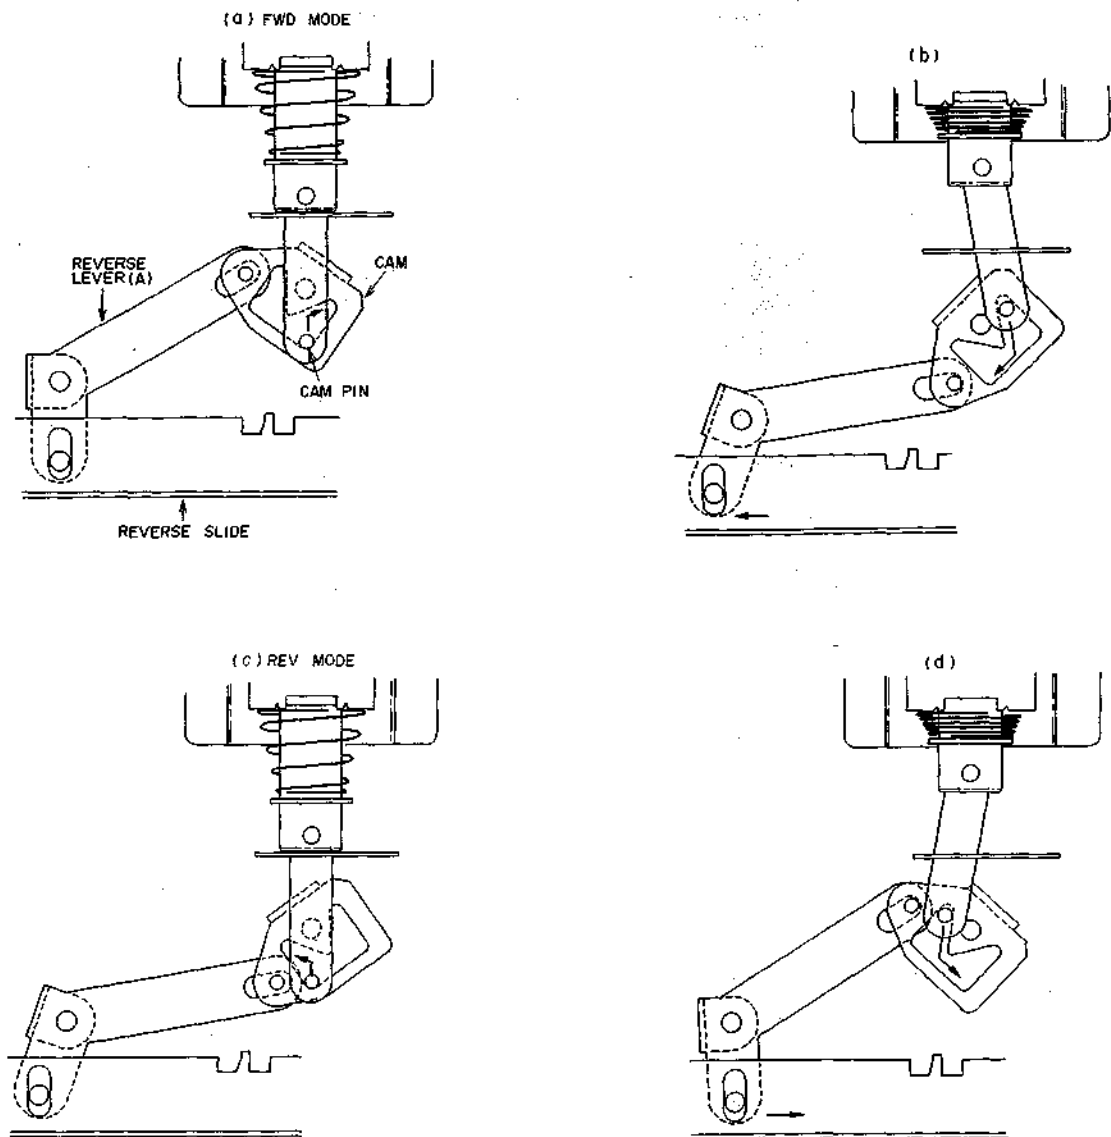

Fig. 6
1) The situation in the FWD Mode is shown in Fig. 6(a). When the Direction Switch is depressed to change into the REV Mode, the reverse plunger operates instantaneously and the cam pin moves along the cam groove in direction of the arrow (a). The reverse slide moves to the left (Refer to Fig. 6(b)) by the movement of the reverse lever (A). And since the Reverse Plunger operates on instantaneously by the Sys. Con. circuit, the
situation is fixed at REV Mode (Fig. 6(c)) after the cam pin moves in the direction of the arrow (Fig. 6(b)).
2) Next, to change from the REV Mode to the FWD Mode, depress the Direction Switch. Same operation as in 1) takes place: the moment the reverse plunger operates is as in Fig. 6(a), when the reverse plunger returns the situation is as in Fig. 6(a), and then the FWD Mode is fixed. These operations also take place when the detector tape guide detects the leader tape.